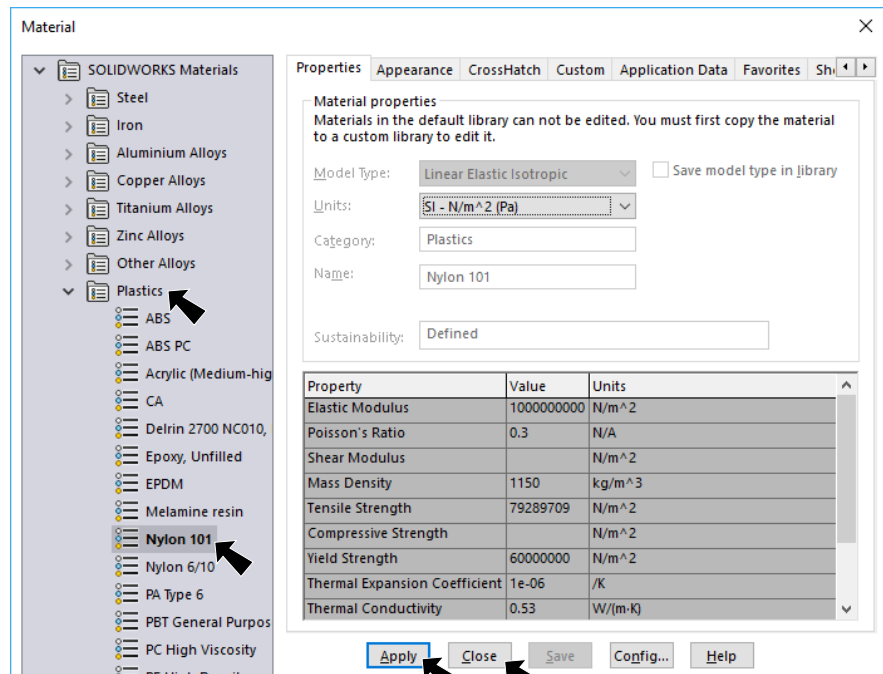

Fig. 9
Step 2. Expand **Plastics** in the material tree and select **Nylon 101**, **Fig. 9**. Click **Apply** and **Close**.